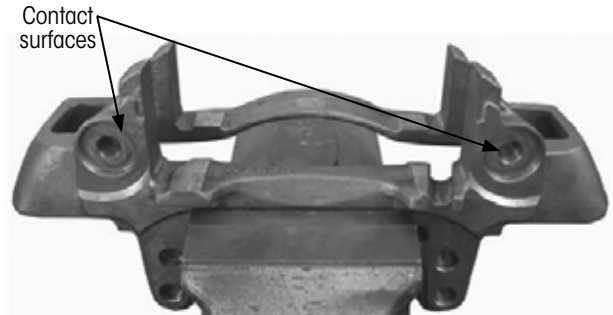

Figure 51: Guide pin contact surfaces
1. **Place** the brake caliper on the brake carrier with guide pins aligned to contact surfaces (Figure 65 and Figure 51 on page 25).